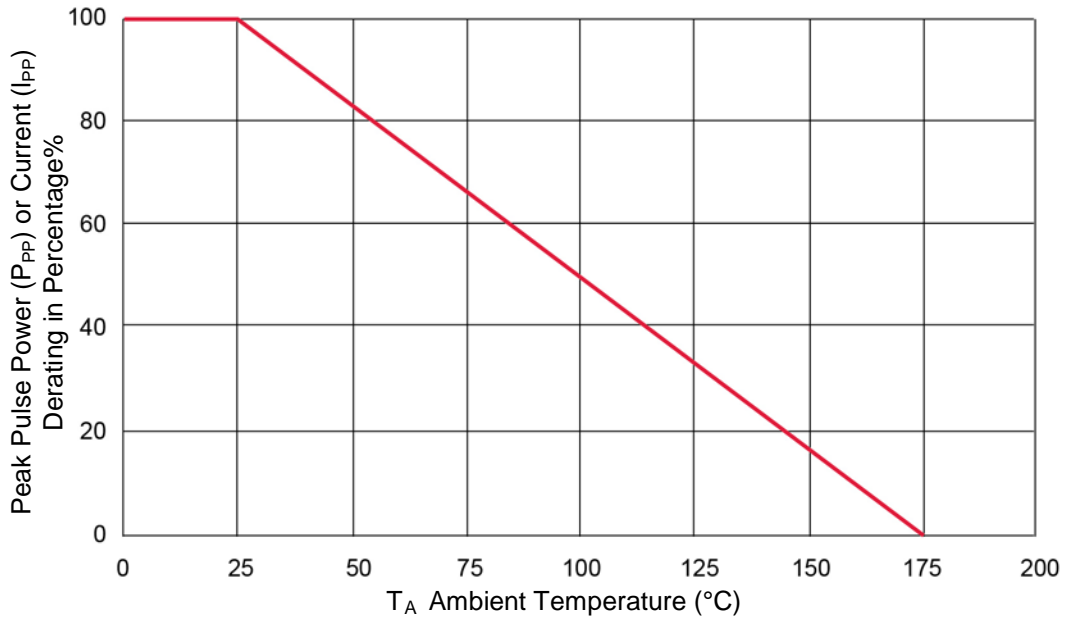
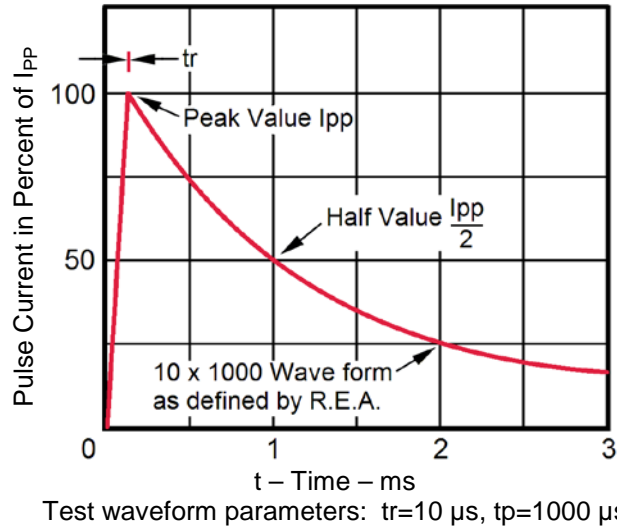

FIGURE 2
FIGURE 3
3. Non-repetitive current pulse, per Figure 3 and derated above $T_A = 25$ °C per Figure 2.
- (1) All ratings at 25 °C unless specified otherwise.
- (2) $V_{(BR)}$ measured after $I_{(BR)}$ applied for 300 μ s, $I_{(BR)}$ = square wave pulse or equivalent.
- (3) Surge current waveform per Figure 3 and derated per Figure 2.
- (4) For bidirectional types with V_{WM} of 30 volts and less, the I_D limit is doubled.